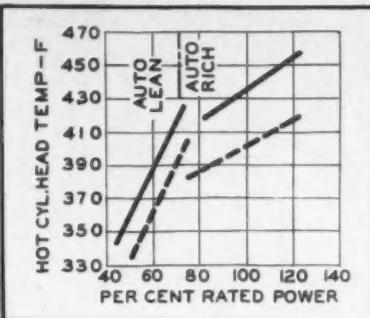

Fig. 13. Test curves show lower maximum cylinder-head temperature with Ex-Cell-O fuel injector.
4. Lower maximum cylinder head temperatures (see Fig. 13).